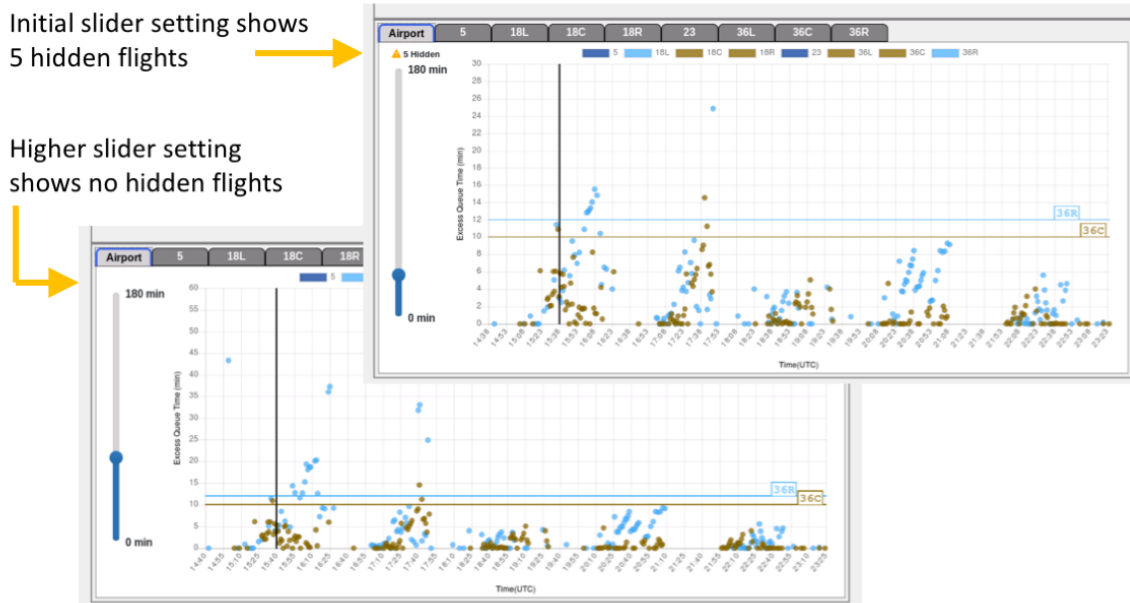

Figure 19. Slider changes maximum y-axis value shown on airport scatter plot.
Step 2: The scatter plot will update to reflect the new maximum time selected (see Figure 19).